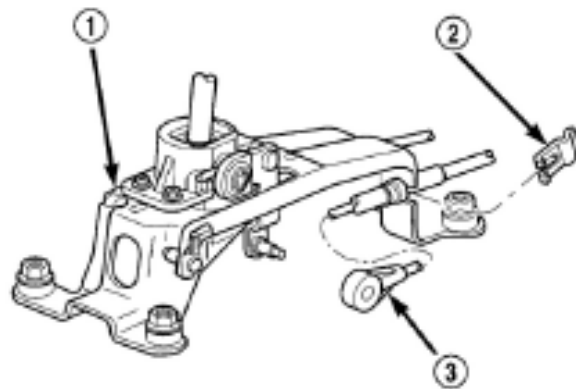
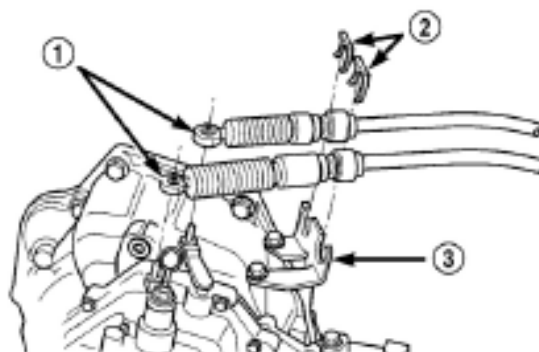

Figure 3-110 Selector cable on transmission assembly
Figure 3-112 Gear shift cable on transaxle
(6) Remove selector cable clamp out of the support (Figure 3-110).
(9) Remove the cable out of shift lever on the transaxle (Figure 3-112).
- (7) Connect the transmission and switching cable to the transaxle shift lever (Figure 3-112).
- (8) Assemble and screw down the 3 screw caps for orifice plate and floor at the tightening torque 6Nm (50 in. lbs.).
- (9) Assemble the gear shift cable on the shift lever and fix it on the transmission support, then mount the fixing clip (Figure 3-110).
- (10) Assemble the switching cable on the shift lever and fix it on the transmission support, and then mount the fixing clip (Figure 3-110).